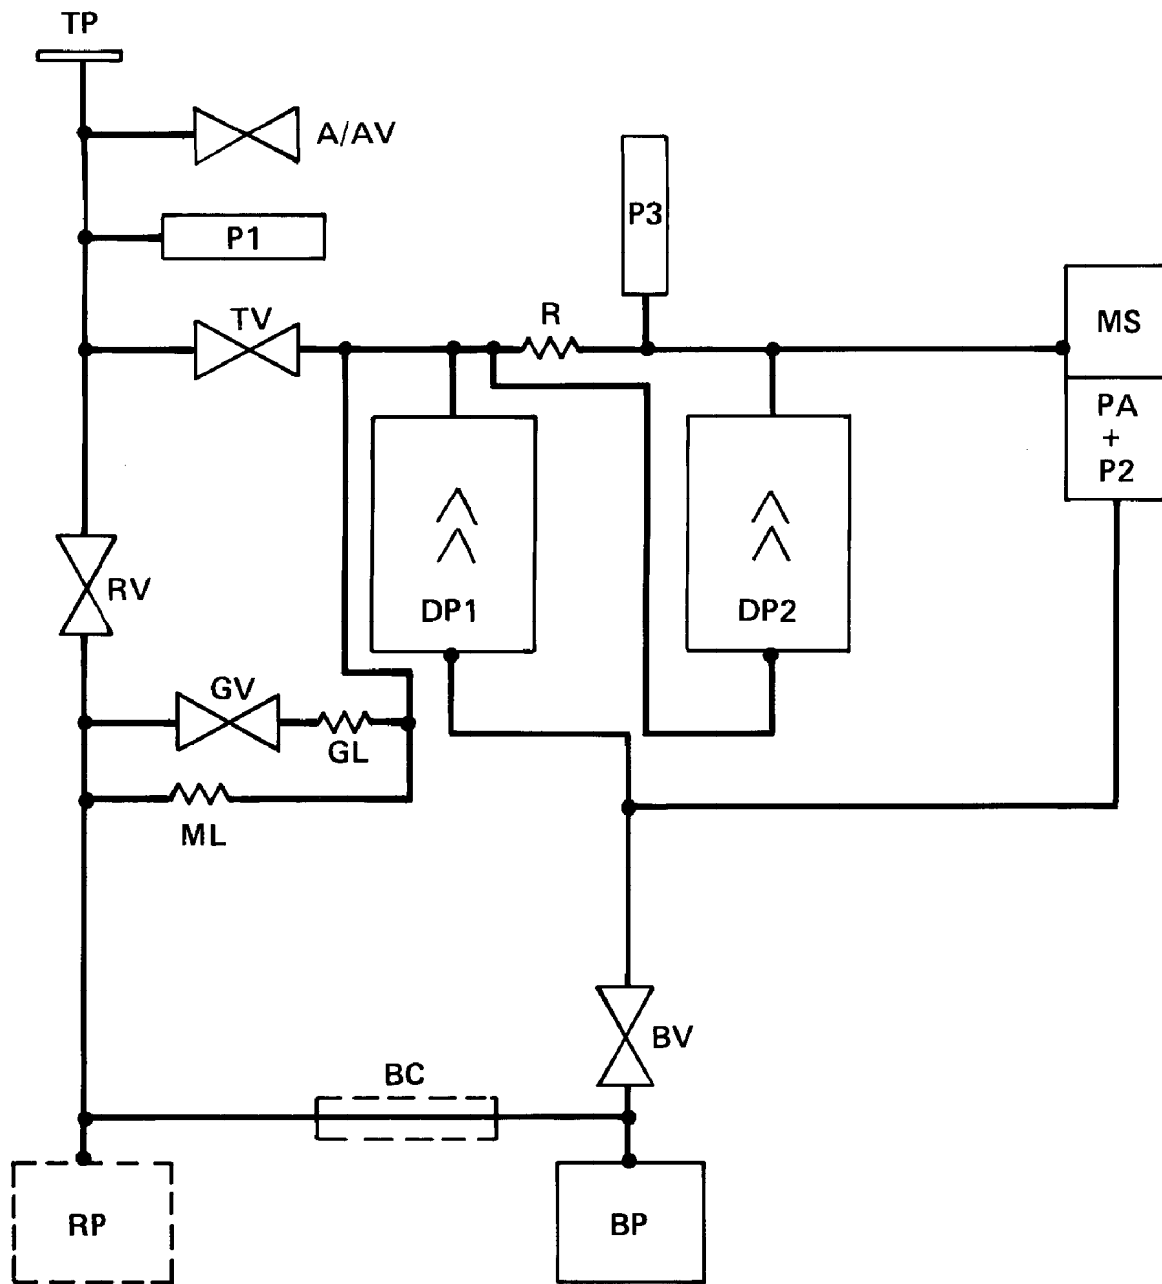

Figure 4.1 - Spectron 300E block schematic
This is the normal leak testing mode. The test piece is pumped down by the diffusion pump through the test valve (TV), valves RV and GV are closed. Leaks over the range 9×10^{-2} to 4×10^{-10} mbar ls^{-1} can be detected. (See Figure 4.1).
(A/AV) will open. The label FINISH will display until the pressure in the test piece has risen to 10^{+2} mbar, when the label READY TO TEST will display. (See Figure 4.1).
Key to Figure 4.1